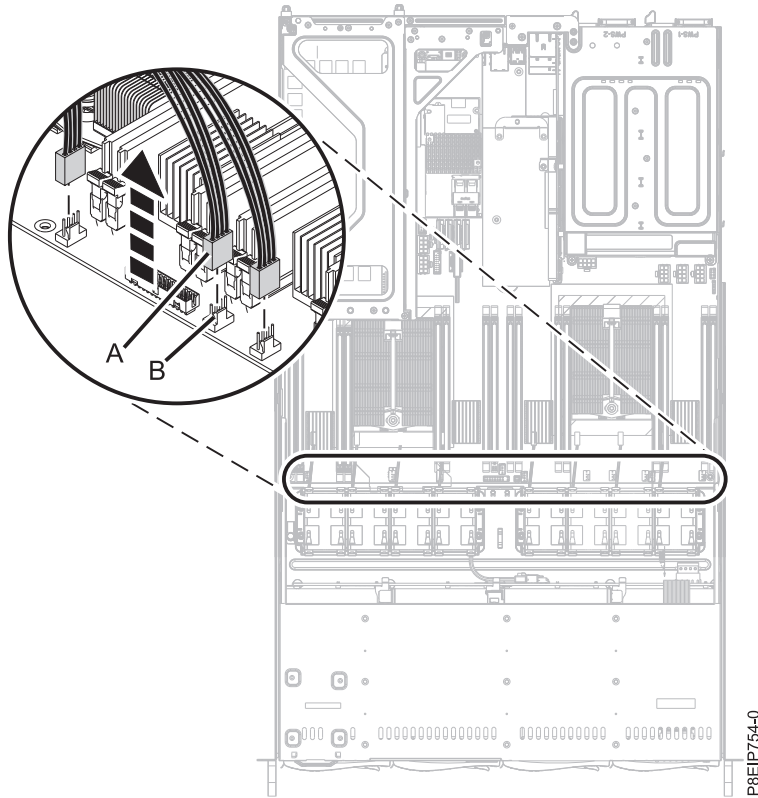

Figure 18. Disconnecting the fan cable
4. To disconnect a fan cable, release the connector clip (**B**) and carefully pull up the connector (**A**) from the system backplane, as shown in Figure 18 on page 21. Do not pull on the wires. Feed the cable through the fan holder.